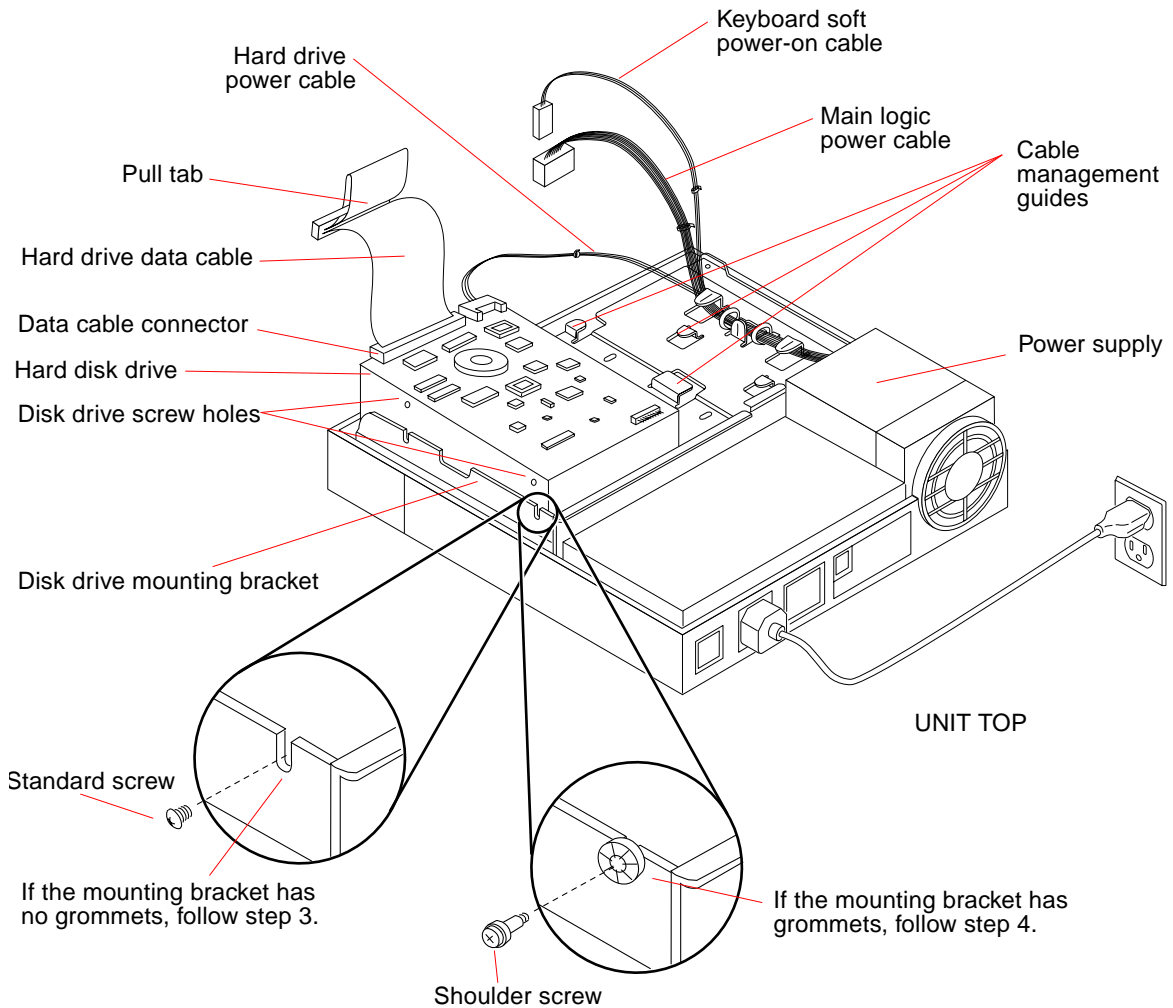

FIGURE 9-10 Installing a Hard Disk Drive
1. **Refer to** FIGURE 9-10.
The location of the data connector on the disk drive is shown in FIGURE 9-10. The data cable connector is keyed to fit only one way.